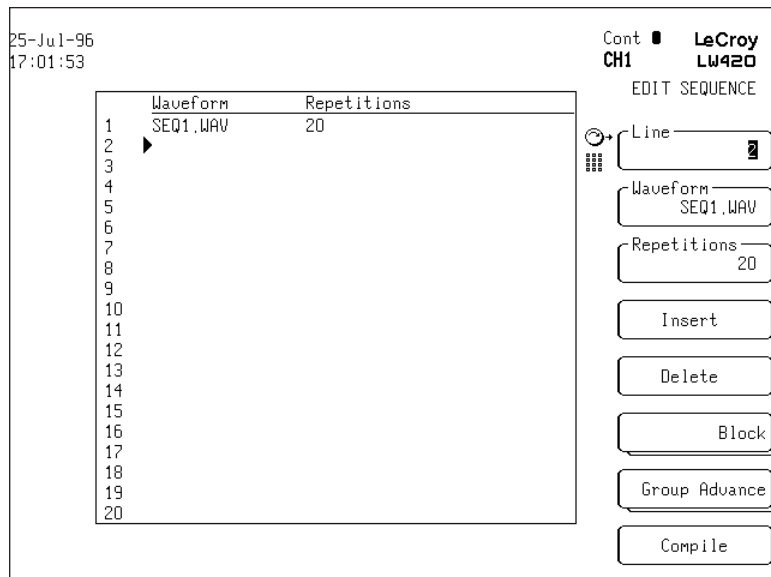

Figure 7.4
4. Press the **EDIT** Key. When the **EDIT** menu appears select **Edit Sequence**. The following figure 7.4 shows the Sequence editor. Enter the waveform and repetitions as shown in the figure, make sure to press the **enter** key in the keypad after entering the numeric information in the repetitions field. When this sequence file is compiled and run, this line instructs the LW400 to output the waveform SEQ1 20 times. When finished entering the data press the **Insert** menu key.